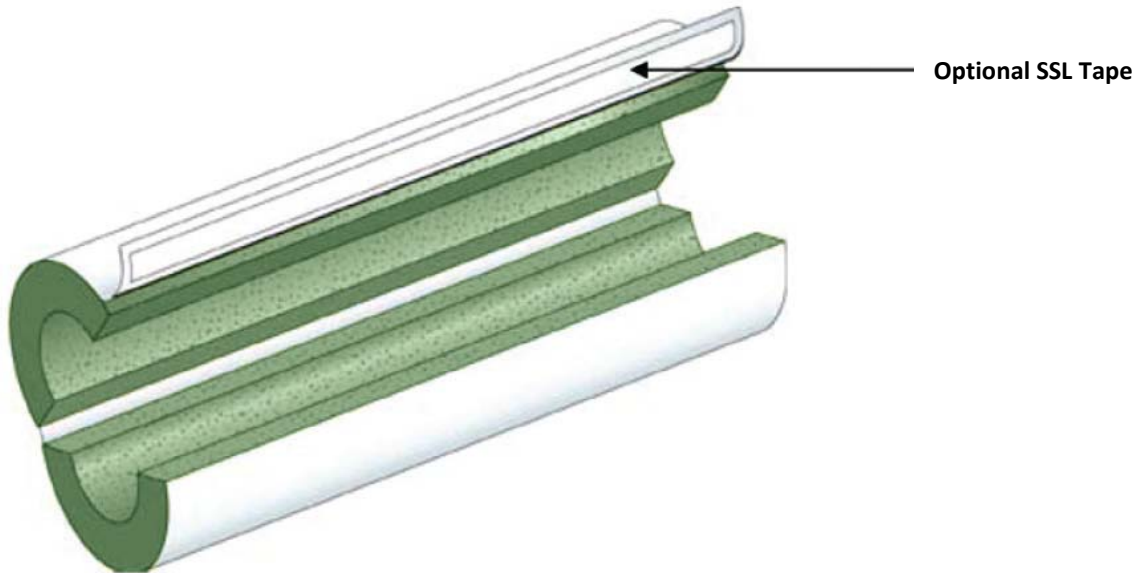

Figure 4
- 4.1.10 Elbows and fittings shall be wrapped with Saran CX 520 Vapor Retarder Tape. See Section 3.4.3 for selection of appropriate Saran CX Tape width. Saran CX 520 Tape shall be wrapped in a spiral configuration with minimal overlap of successive courses. When Saran CX Vapor Retarder is factory-applied, lap joint to be sealed with SSL tape. Apply Saran CX 520 tape around the butt joint with a ¼ circumferential overlap. See details in Figure 3 and Figure 4 in Appendix B.